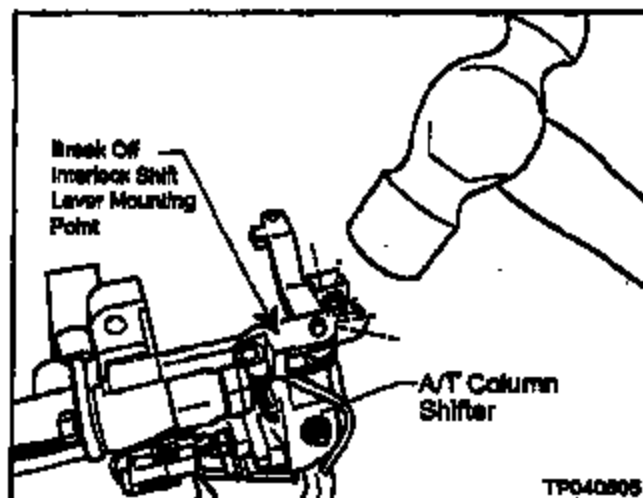

Figure 10
22. Destroy the original (old) A/T Column Shifter as follows (see Figure 10).
- b. Hit the Shifter with a Ball-Peen Hammer to break off the Interlock Shift Lever Mounting Point (see Figure 10).